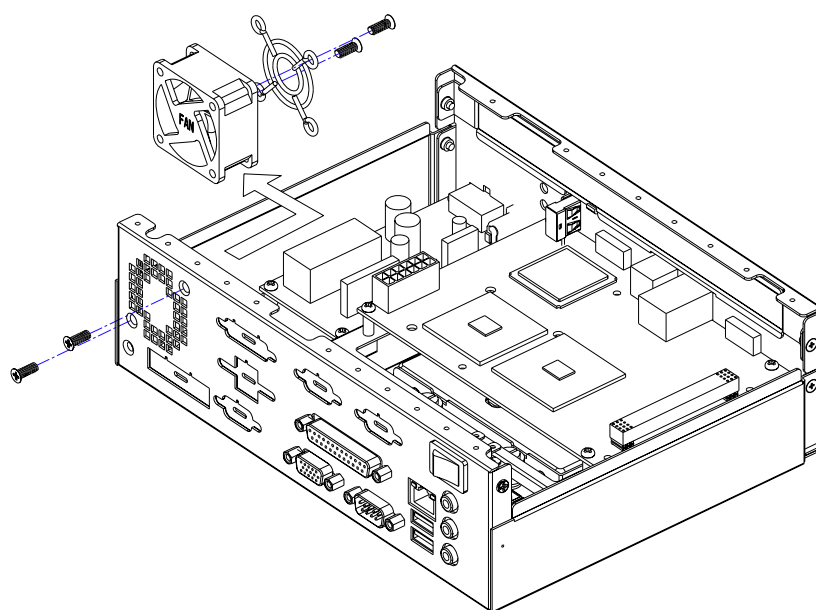

Figure 4.4 Replacing the system fan
3. Loosen the two screws on the rear plate and take out the fan module. (see Figure 4.4)